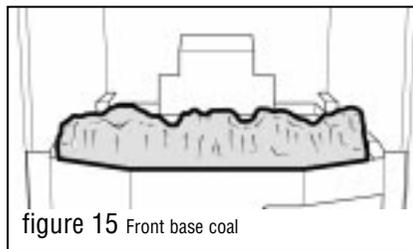

figure 15 Front base coal
- 7.1 Place the front base coal in the burner compartment so that it rests on the ledges at the sides and front. Pull the coal forward so that it is immediately behind the front rim of the burner compartment. See figure 15.